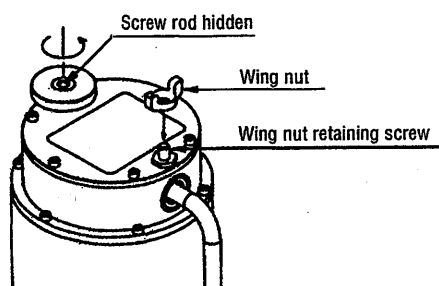

Fig. 4 Conditions the stopper mechanism is effective
- When the wing nut is not in use, keep it in place with the dedicated retaining screw so that it may not be lost. (See Fig. 4.)